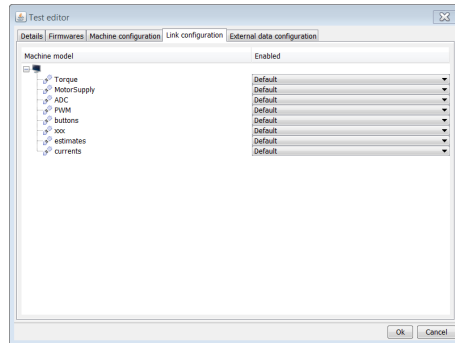

Figure 6.9: Click Create new Test to add a new Test in the Test Sequence.
- *Details*, is shown in Figure 6.9;